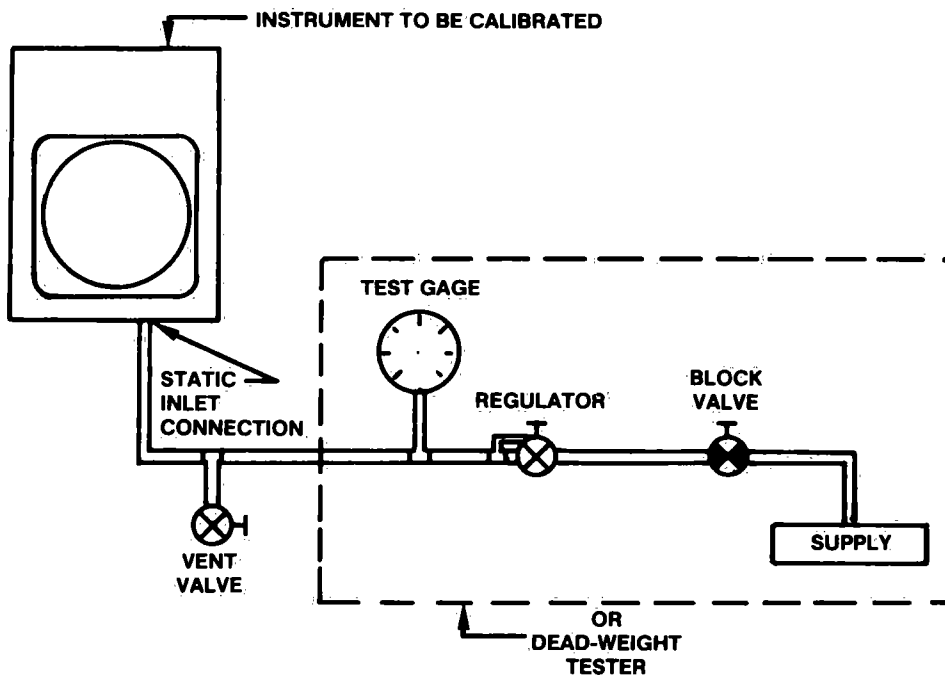

Figure 5-2. Static Pressure Calibration Setup
1. Connect static pressure element (see Figure 1-5) into the calibration setup shown in Figure 5-2.